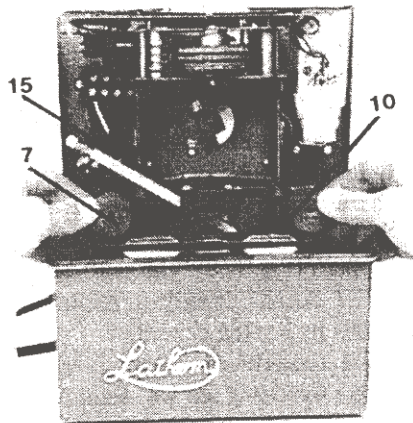

FIGURE 8
2. Remove the cotter pins (Fig. 8, 7) that retain the ribbon spools and slide off old spools.
3. Lift ribbon shield (Fig. 8, 15)—use pencil to support in up position.
4. Remove ribbon and replace with new Lathem ribbon. Make sure the ribbon feeds from bottom of spools and runs BETWEEN reversing fingers (Fig. 8, 10), the red side aligned with date wheel(s).